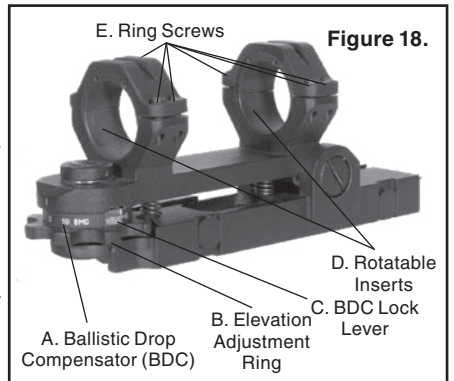

Figure 18.
2. Set Ballistic Cam (BC) "A" (Fig.18) on position 2 (200 Yards) by locking the BC Lock Lever (BCL) "C" in the down position and turning it full CW as viewed from above.